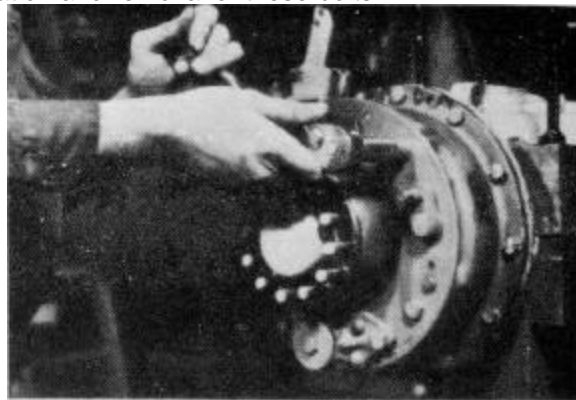

Figure 5-20
1. Remove the eight hex head cap screws (two 3/8 16 x 1-1/8 inch and six 3/8-16 x 7/8 inch long) with a five-eighths inch socket and breaker bar as each screw was assembled with loc-tite sealant. Fig. 5-20 shows the location and removal of these bolts.